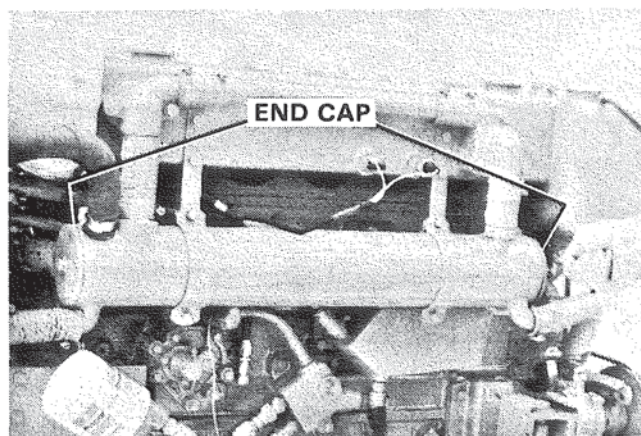

Figure 26. Cleaning Heat Exchanger.
1. Remove end caps from heat exchanger and inspect for debris. Figure 26.